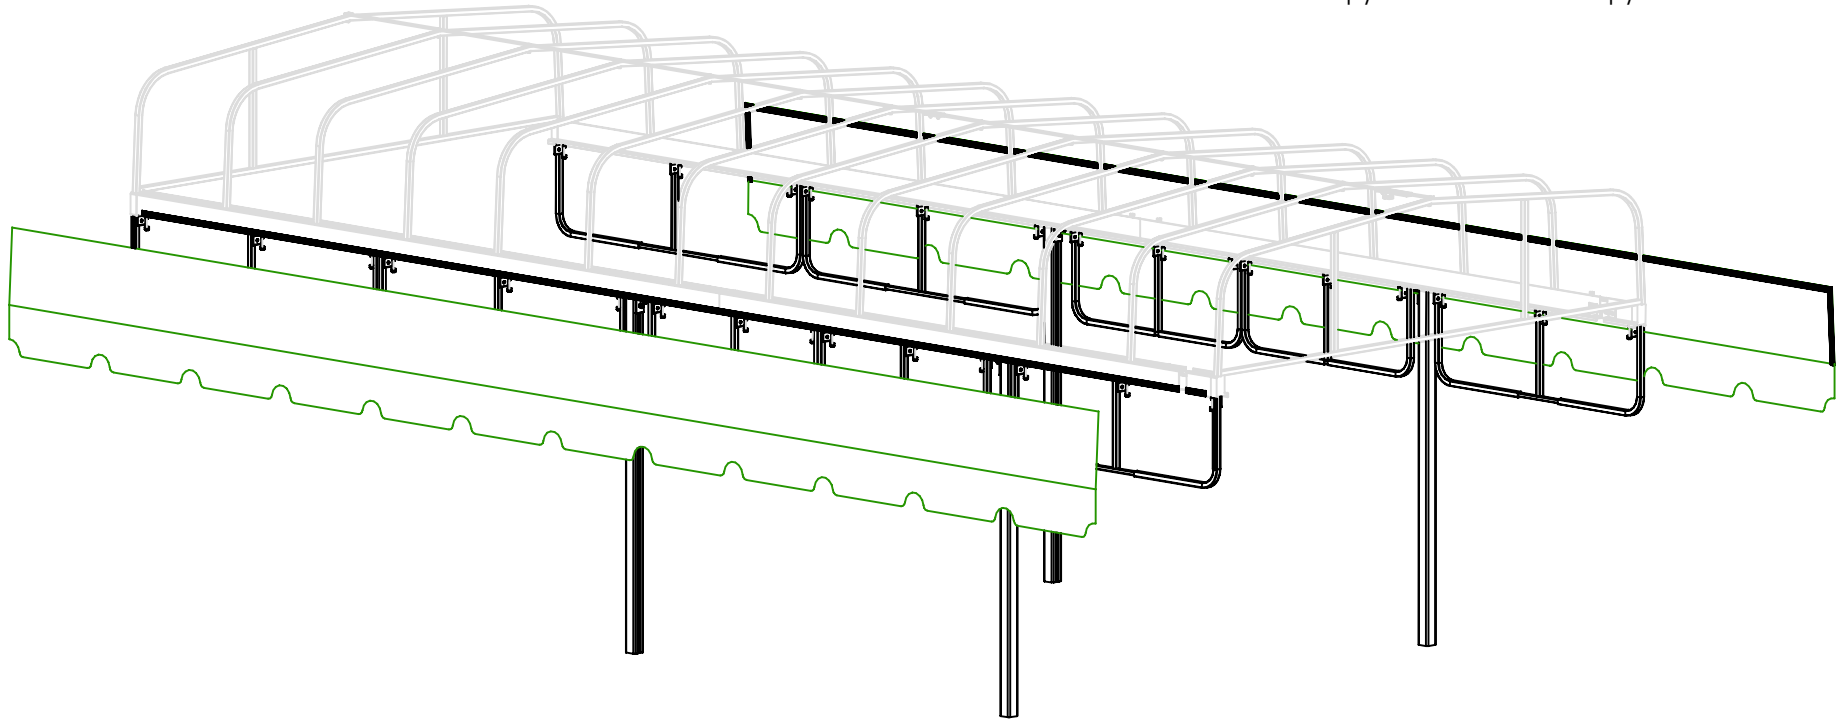

Fig. 5A
1. Unfold canopy extension fabric. Attach long edge with loop strip to the adhesive backed hook strip on main canopy rail so that the elastic bands with the hooks are between the extension fabric and the adhesive backed hook strip on canopy main rail. Fasten ends to adhesive backed hook strip on canopy extension frames. Wrap double sided Velcro straps around bottom tubes of extension assemblies. Pull the fabric when attaching for best appearance. See Fig. 5A. Hook the elastic band hooks on the canopy fabric to the canopy main rail.